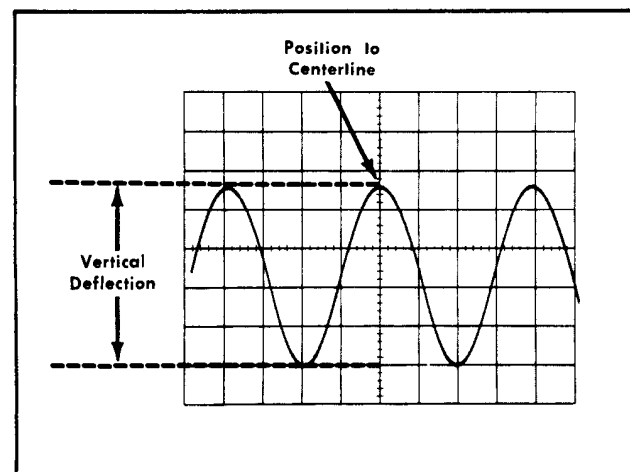

Fig. 2-10. Measuring peak-to-peak voltage of a waveform.
6. Turn the vertical POSITION control so the lower portion of the waveform coincides with one of the graticule lines below the centerline, and the top of the waveform is on the viewing area. With the horizontal POSITION control, move the display so one of the upper peaks lies near the graticule center vertical line (see Fig. 2-10).
**Example.** As an example of this method of measurement, assume that the peak-to-peak vertical deflection is 4.6 divisions (see Fig. 2-10) using a  $10\times$  attenuator probe and a VOLTS/DIV switch of .5.